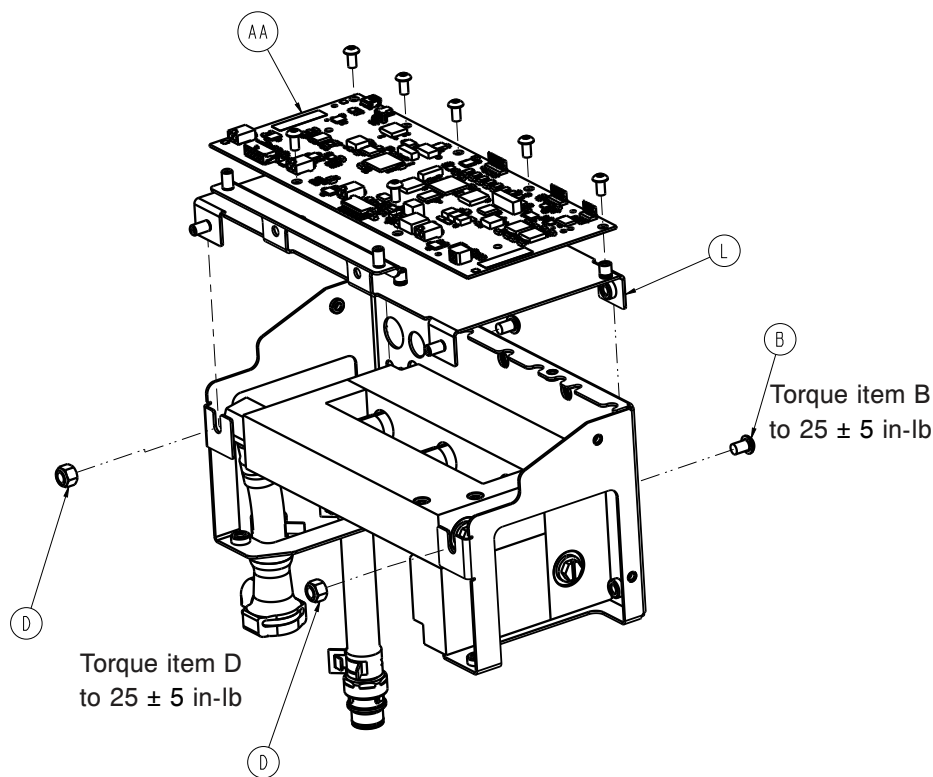

Figure 37 – Outer manifold bracket to MCB support bracket
2. Using a T25 Torx driver, remove the two screws (B) that secure the outer manifold bracket to the MCB support bracket (Figure 37). Save the screws.